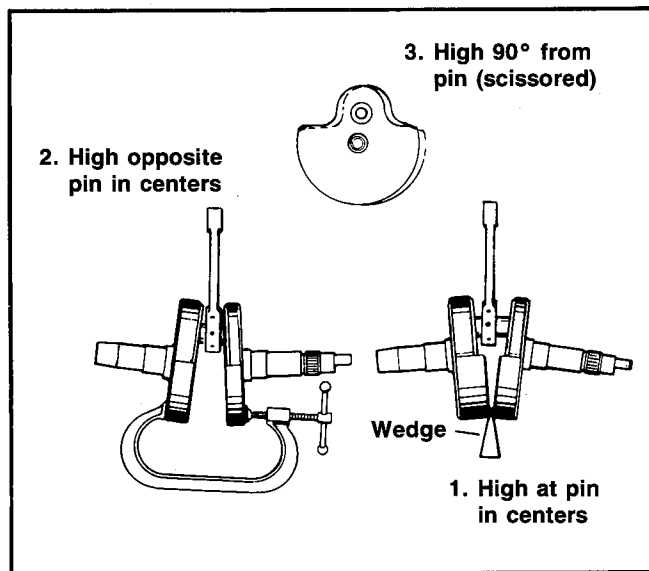

Figure 62 - Correcting Crankshaft Misalignment
b. See Figure 62. Shafts must run true within .002 in. on fan side and .002 in. on transmission side. Correct flywheel alignment as follows:
- (1) If the shafts run high as the crankpin passes the indicators, mark high spot with chalk, remove chalk from truing device, position wedge as shown and strike wedge. Remove wedge and take another reading. Repeat if same condition exists.
- (2) If the shafts run high as the crankpin passes directly opposite the indicators, install a C clamp on the bottom of the crank throw and apply pressure on the C clamp. Remove C clamp and take another reading. Repeat if same condition exists.
- (3) If one shaft runs high and the other low as the crankpin passes 90° from the indicators, the crank halves are scissored. Mark the high crank throw at point closest the indicator and remove crankshaft assembly from truing device. Place the low end on a soft surface and strike the marked crank throw on the mark firmly with a copper hammer. A steel hammer will damage the crankshaft. Reinstall assembly in truing device and take another reading. Repeat procedure if same condition exists.